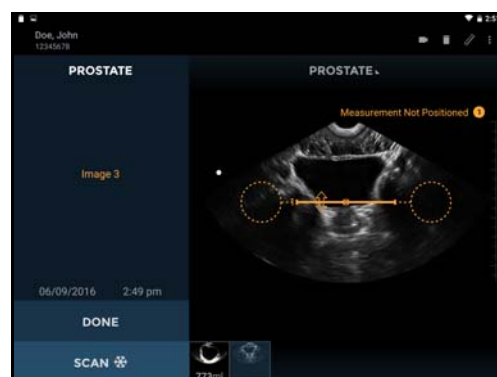

Fig 3.13 Distance Measurement
- Calipers measure a straight line distance between two points (see Fig 3.13).